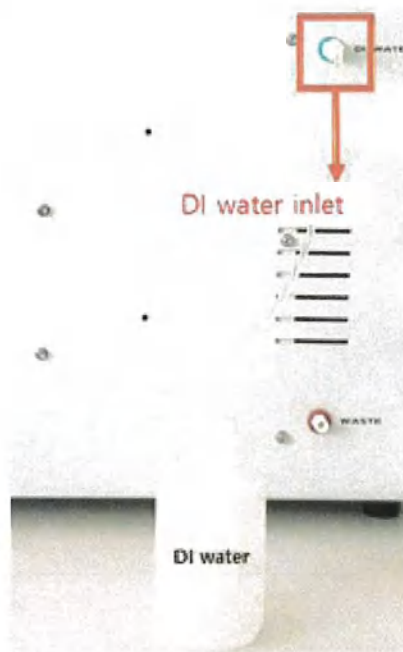

Figure 5
3 Pour deionized water (DI) into a 125 ml DI bottle and place the deionized water intake tube into the DI bottle as shown in Figure 5.